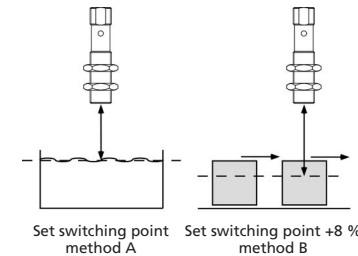

Fig. 3: Setting the switching point for different directions of movement of the object
- In the »Set switching point - method A« Teach-in procedure the actual distance to the object is taught to the sensor as the switching point. If the object moves towards the sensor (e.g. with level control) then the taught distance is the level at which the sensor has to switch the output, see figure 3.
- If the object to be scanned moves into the detection zone from the side, the »Set switching point +8 % - method B« Teach-in procedure should be used. In this way the switching distance is set 8 % further than the actual measured distance to the object. This ensures a reliable switching distance even if the height of the objects varies slightly, see figure 3.